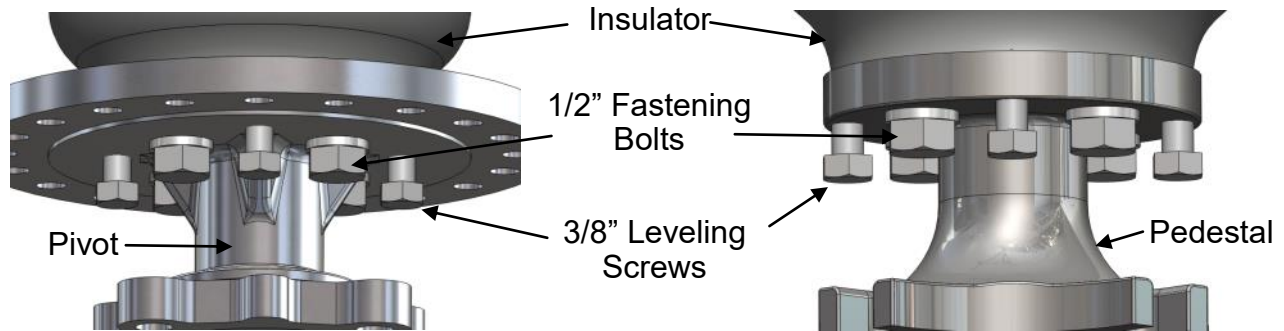
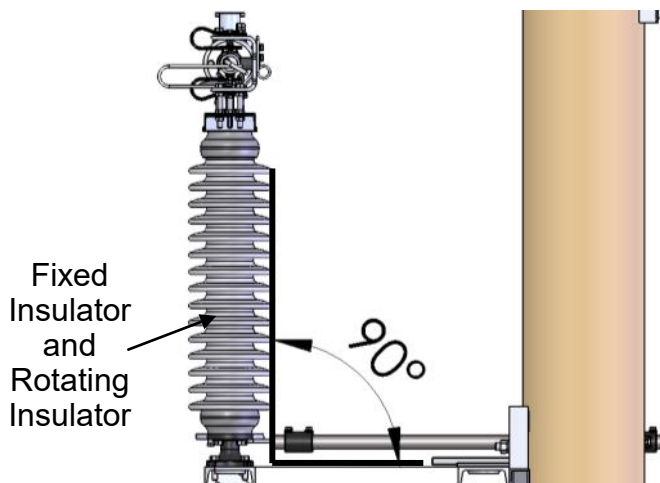
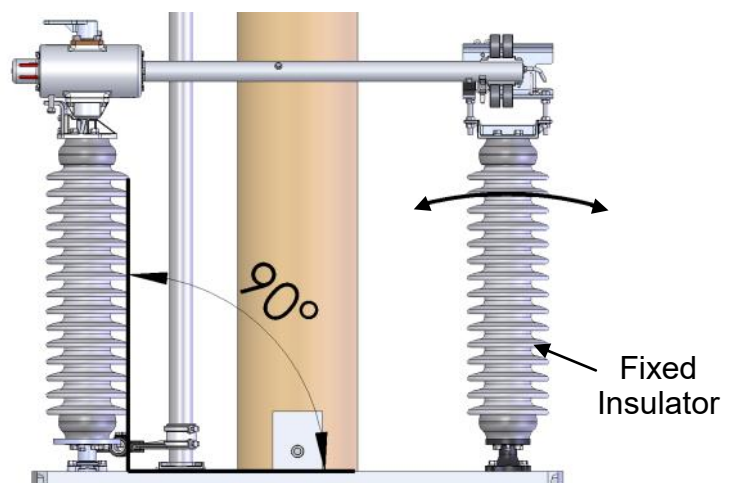
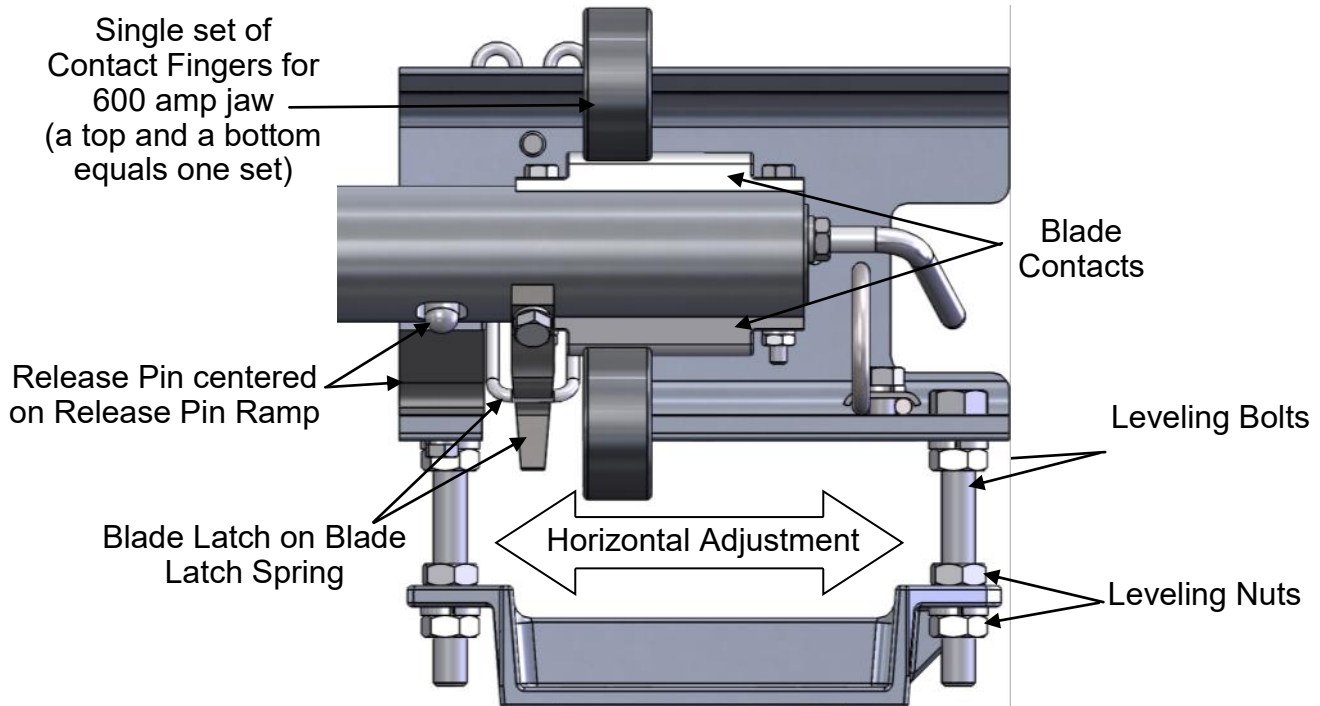

Figure 9 — Insulator leveling screws — 15-69kV
Figure 11 — Adjustment of rotating and fixed insulator, side view
Figure 12 — Horizontal adjustment of fixed insulator, front view
Figure 13 — Horizontal adjustment, latched position, 600 amp jaw
- 2. For proper alignment, both insulators will have to be adjusted. To ensure the smoothest operation, the rotating insulator needs to be plumbed at a right angle to the base first. Use a carpenter's square to check the alignment in at least two directions. See figures 11 and 12.
- 3. Adjustment of the insulators is done using the leveling screws. First, loosen the fastening bolts slightly and then tighten the leveling screws. Adjust until the rotating insulator is perpendicular to the base and the frame as shown in Figures 11 and 12. Tighten the fastening bolts when adjustment is finished. Refer to Figures 9 and 10 for location of the fastening bolts and the leveling screws.
- 4. Once the rotating insulator is perpendicular to the base, use the same method as described in step 3 to adjust the fixed insulator so that it sits at a right angle to the frame as shown in Figure 11.
The fixed insulator only needs to be perpendicular to the frame in the direction that is illustrated in Figure 11. The insulator may not be perpendicular to the frame in the direction illustrated in Figure 12. The adjustment of the insulator in this direction is covered in the next section.
Once the fixed insulator is perpendicular to the base as shown in Figure 11, check the alignment of the blade in the jaw. The blade should be aligned in the jaw as shown in Figures 13 and 14.
For both the 600 amp and 1200 amp switches, the release pin should make contact with the center of the release pin ramp. The blade latch should be centered in the slot in the bottom of the jaw such that the blade latch enters the blade latch spring without hitting either arm of the blade latch spring. If the blade and jaw are not aligned as described, proceed to the horizontal adjustment section. Proper alignment is illustrated in Figures 13 and 14.
The horizontal direction is illustrated in Figures 12 and 13. The blade needs to be in the unlatched position before making any adjustments. For horizontal jaw adjustment, use the 3/8"-16 leveling screws located on the pedestal at the bottom of the fixed insulator. First, loosen the fastening bolts slightly and then tilt the insulator by adjusting the leveling screws. There are several things to check for when aligning the jaw horizontally. See the horizontal alignment check section for proper alignment.
As shown in Figure 13 the contact fingers will **NOT** be centered on the blade contacts for a 600 Amp switch.